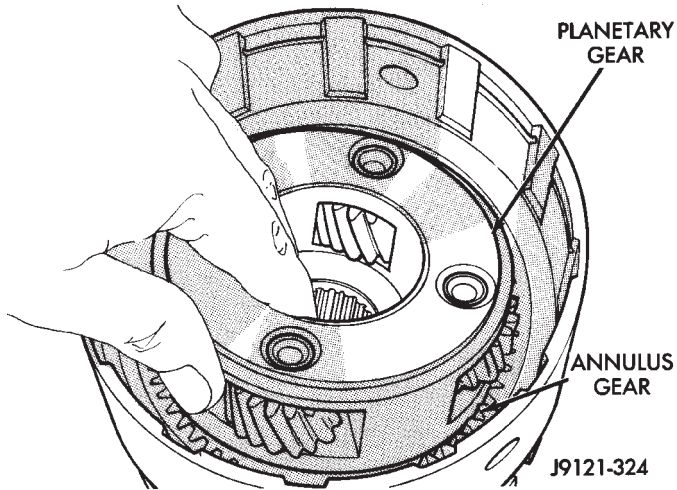

Fig. 227 Planetary Gear Installation
(11) Install planetary gear in annulus gear (Fig. 227). **Be sure planetary pinions are fully seated in annulus gear before proceeding.**
(12) Coat planetary thrust bearing and bearing contact surface of spring plate with generous amount of petroleum jelly. This will help hold bearing in place during installation.